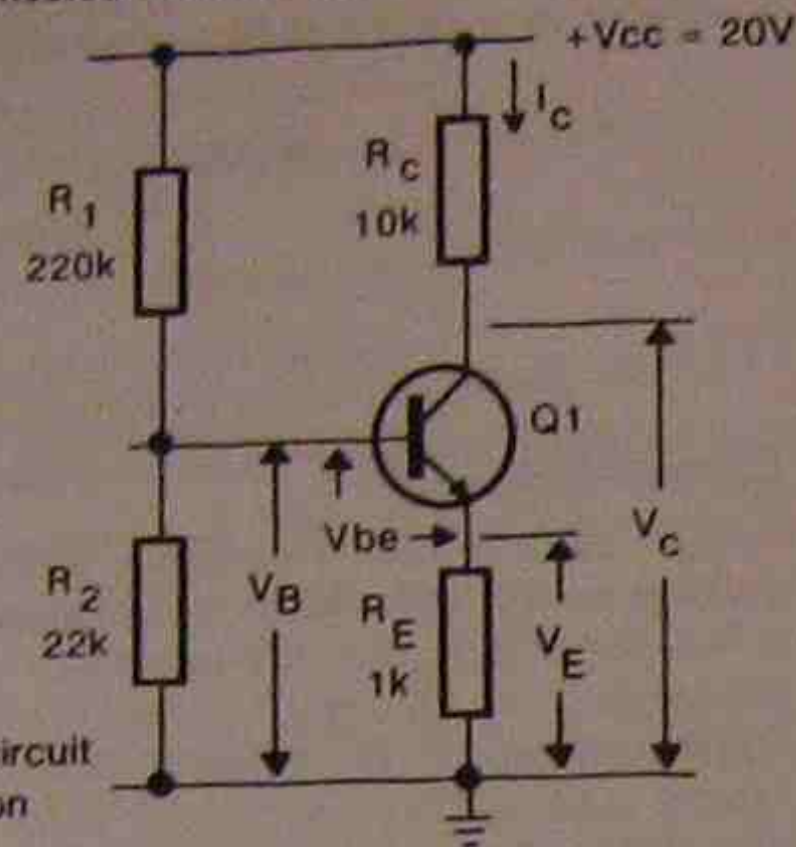

Fig.2: Potential divider bias circuit with emitter stabilisation
To overcome the problems of the circuit of Fig.1, the base bias voltage is produced with a potential divider circuit. As well, a resistor is connected between the emitter terminal and ground. The combined effect is a circuit that is very stable against changes in current gain and changes in temperature. This circuit is shown in Fig.2 where:
7. ANALYSIS OF FIG.2
The circuit of Fig.2 is typical and its analysis relies on three approximations: